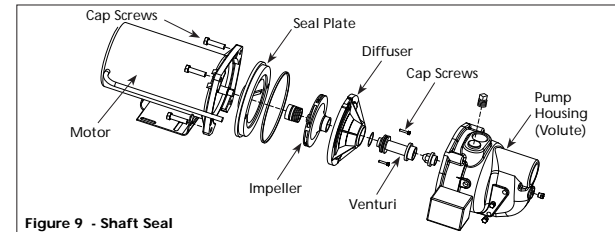

Figure 9 - Shaft Seal
- Remove the four cap screws holding the pump housing (volute) to the motor (Figure 9).